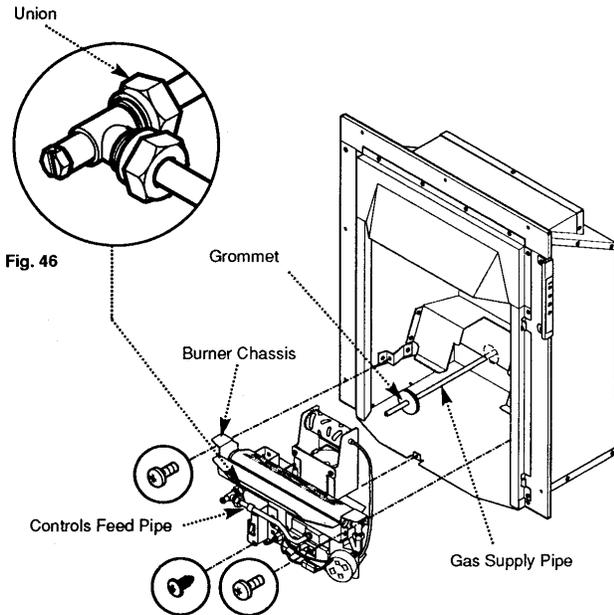

Fig. 47
4. Undo the three screws retaining the burner chassis assembly to the combustion box sides and combustion box base. Withdraw the burner chassis assembly (Fig. 47).